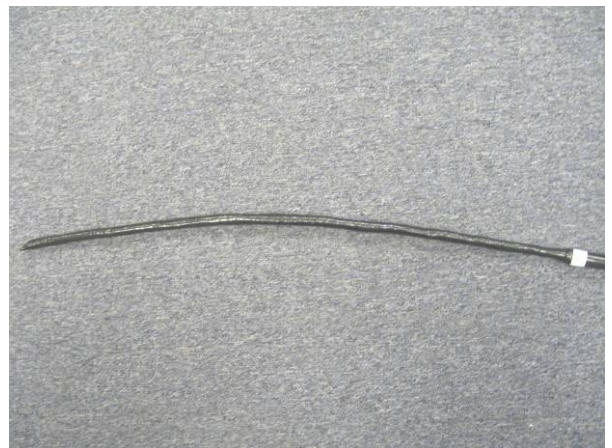

Figure 18: Strength Elements and Buffers Covered with 3M 88T Electrical Tape
Step 12: Using 3M 88T Electrical Tape or a suitable substitute, the strength elements and buffers should then be covered (See Figure 18).